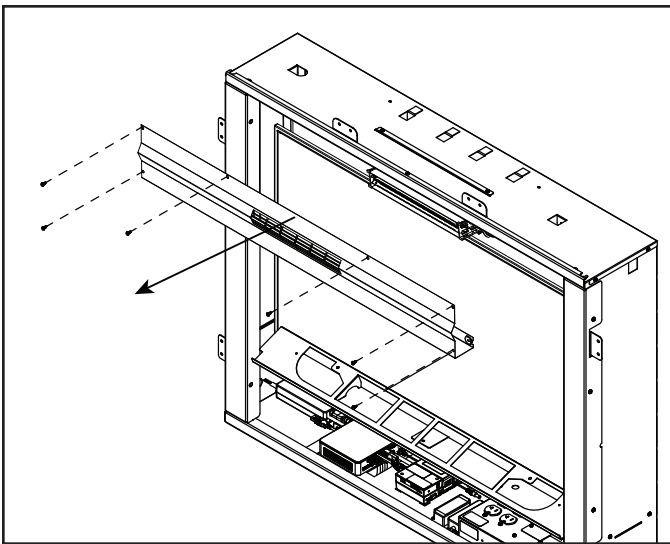

Figure 3.8 Blower Cover Removal
2. Remove six (6) Phillips screws attaching the blower cover to the appliance. See Figure 3.8.